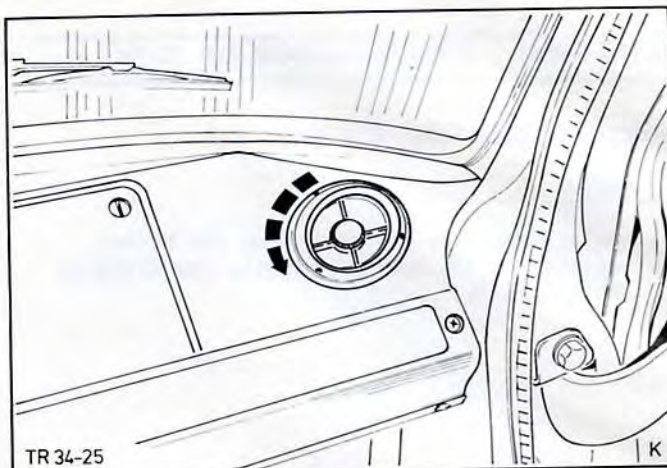

Fig.34. Remove vent.
1. Remove the vent Fig.34, by unscrewing the outer threaded ring on the vent nozzle.